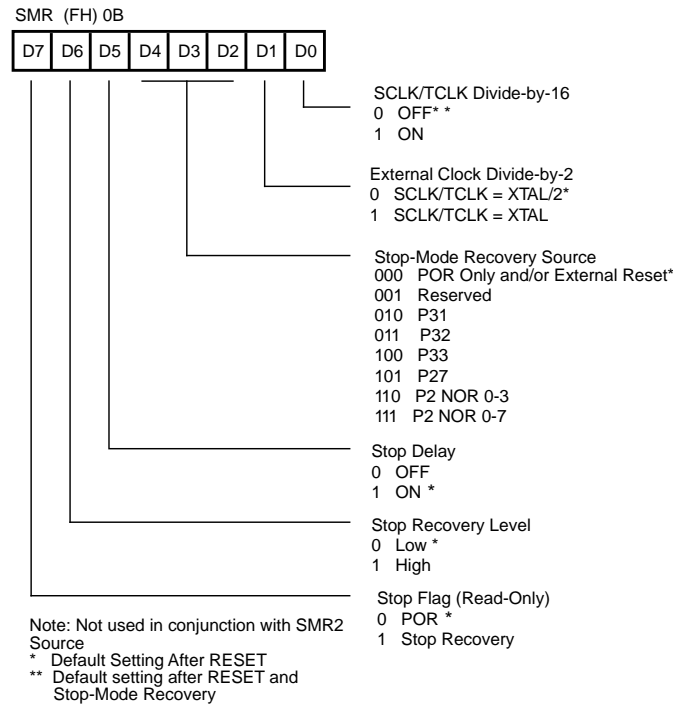
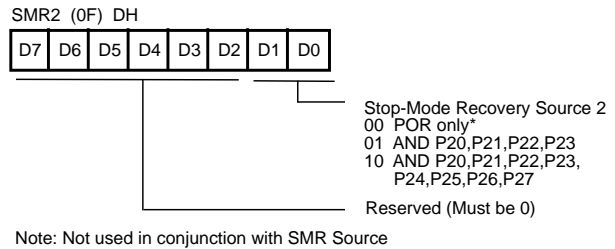

Figure 34. STOP-Mode Recovery Register (Write-Only Except Bit D7, Which Is Read-Only)
Figure 35. Stop-Mode Recovery Register 2 ([0F] DH: Write-Only)
**STOP-Mode Recovery (SMR) Register.** This register selects the clock divide value and determines the mode of STOP-Mode Recovery (Figure 34 and Figure 35). All bits are Write-Only, except bit 7, which is Read-Only. Bit 7 is a flag bit that is hardware set on the condition of STOP recovery and reset by a power-on cycle. Bit 6 controls whether a low level or a high level is required from the recovery source. Bit 5 controls the reset delay after recovery. Bits 2, 3, and 4, or the SMR Register, specify the source of the STOP-Mode Recovery signal. Bits 0 and 1 determine the timeout period of the WDT. The SMR Register is located in Bank F of the Expanded Register Group at address 0BH. When the Stop-Mode Recovery sources are selected in this register, then SMR2 Register bits D0,D1 must be set to 0.